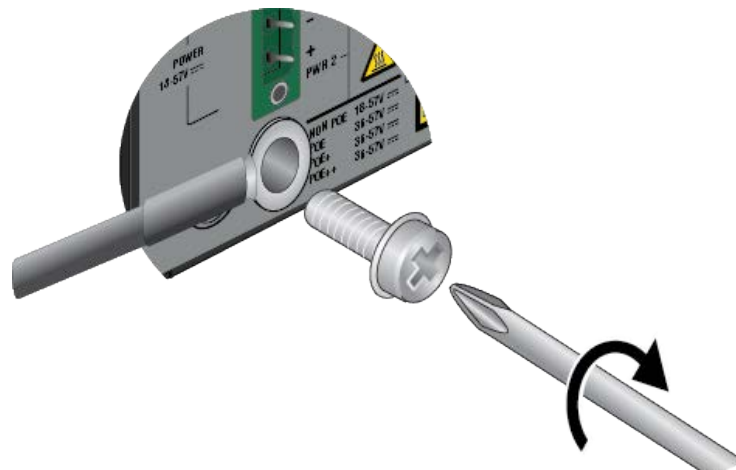

Figure 52. Attaching the Grounding Wire to the Switch
8. Secure the grounding screw to the IE360 Switch with the grounding screw. Tighten screw to 6 in-lbs. Refer to Figure 52 on page 104.